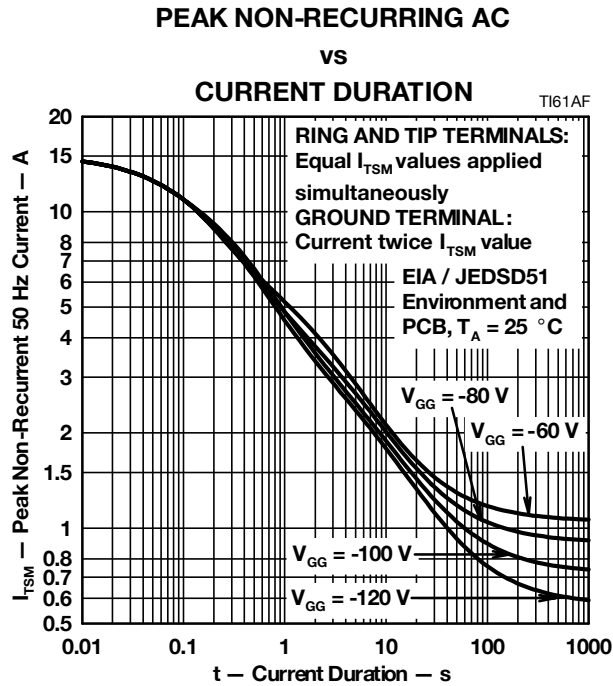

Figure 2. Non-Repetitive Peak On-State Current against Duration
3. Values for  $V_{GG} = -48$  V. For values at other voltages, see Figure 2.